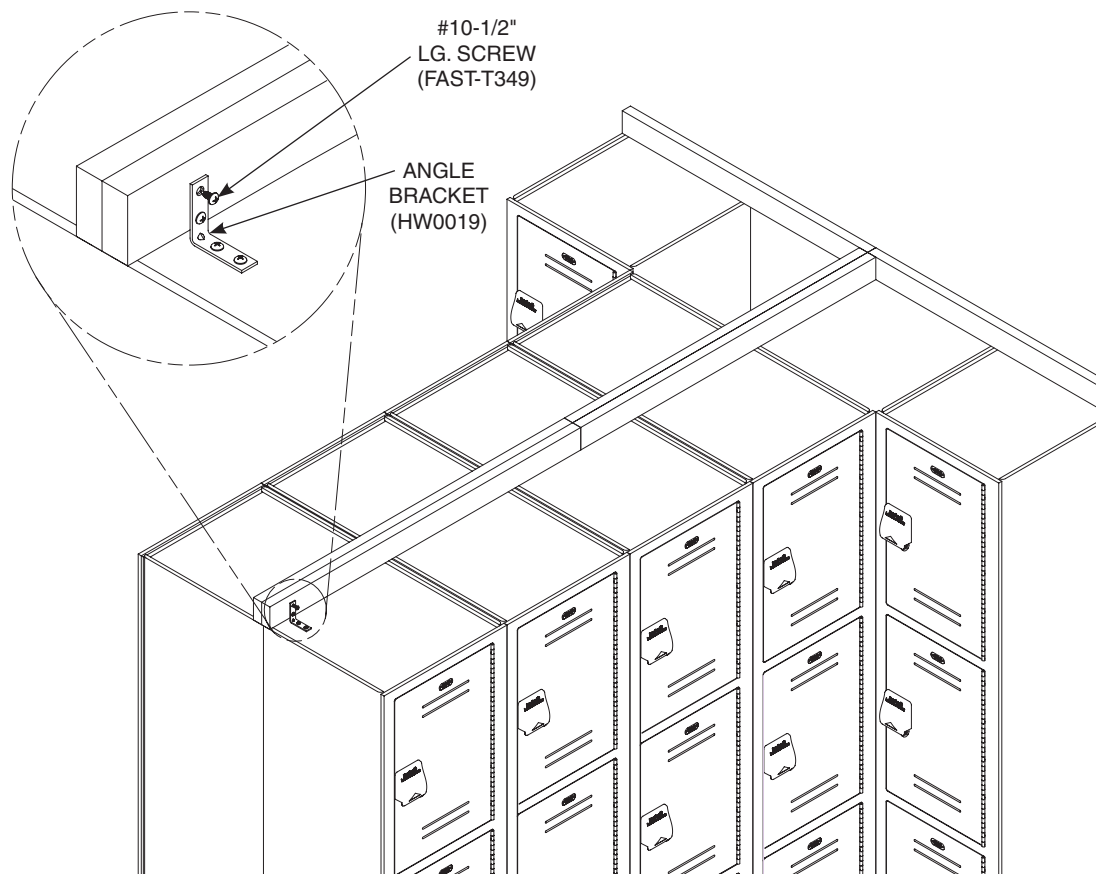

Figure 10a
2. Position the slope top mounting strips on top of the lockers as shown in Figure 10a.
4. Using the 2" mounting brackets and hardware supplied, anchor the mounting strips to the top of the locker as shown in Figure 10a. Drill 1/16" pilot holes 1/2" deep for the #10 x 1/2" screws that fasten the angle bracket and mending plate to the base.